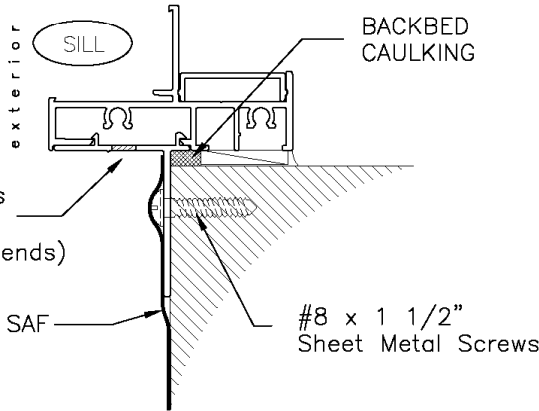

Figure 6: Installation type "D" using Fin Frame
Page 11:	Figure 6: Installation type “D”
### **FIN FRAME INSTALLATION INSTRUCTIONS** **for Fin Frame Windows (Refer to Figure 6)**
5. After fin adaptor is attached, drill two ¼” diameter drain holes (approx. 4” from each end) at the bottom fin adaptor on each window (*refer to figure 6*). This will allow any water that may get trapped behind the fin adaptors and the window to drain out. Note: These holes can also be drilled prior to attaching the adaptor.
8. Secure window using installation screws as selected from the approval documents for your specific application (*see figure 6*). Shim window to main structure at every installation screw location (shim space should not exceed ¼”). **Caution: Any window, which is forced into an opening and racked or twisted, can eventually cause glass breakage.**